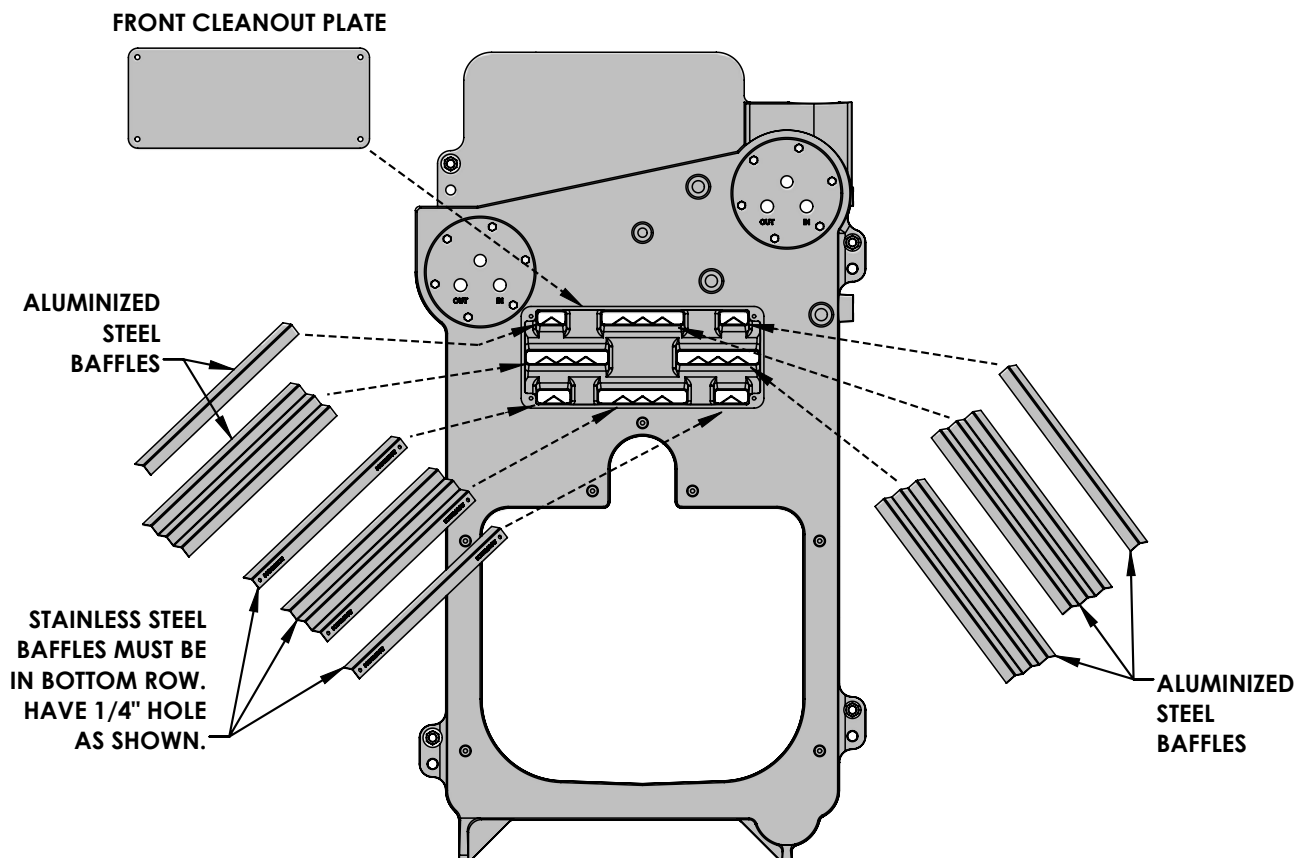

Figure 2.11: Flue Baffle Locations
3. Place baffles as shown in Figure 2.11. Three of these are special stainless steel baffles, identified with a 1/4" hole punched in each end. These baffles must be placed in the lowest row of tubes.